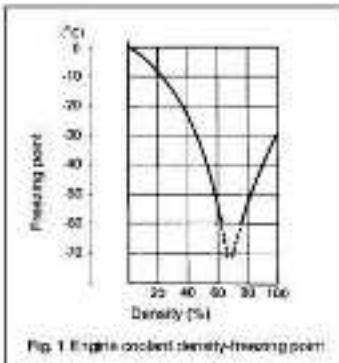

Fig. 1 Engine coolant density-freezing point
- * If the motorcycle is to be exposed to temperatures below -31 °C (-24 °F), the percentage of antifreeze should be increased to 55 % or 60 %, according to figure 1.